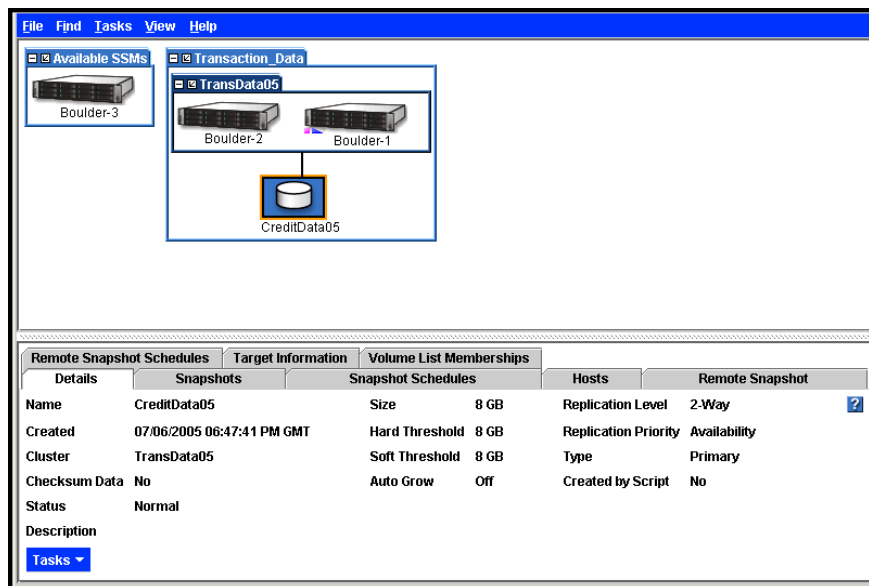

Figure 173. Volume Tab View
2. Select the volume on which you want to create a snapshot. The volume Tab View opens, shown in Figure 173.